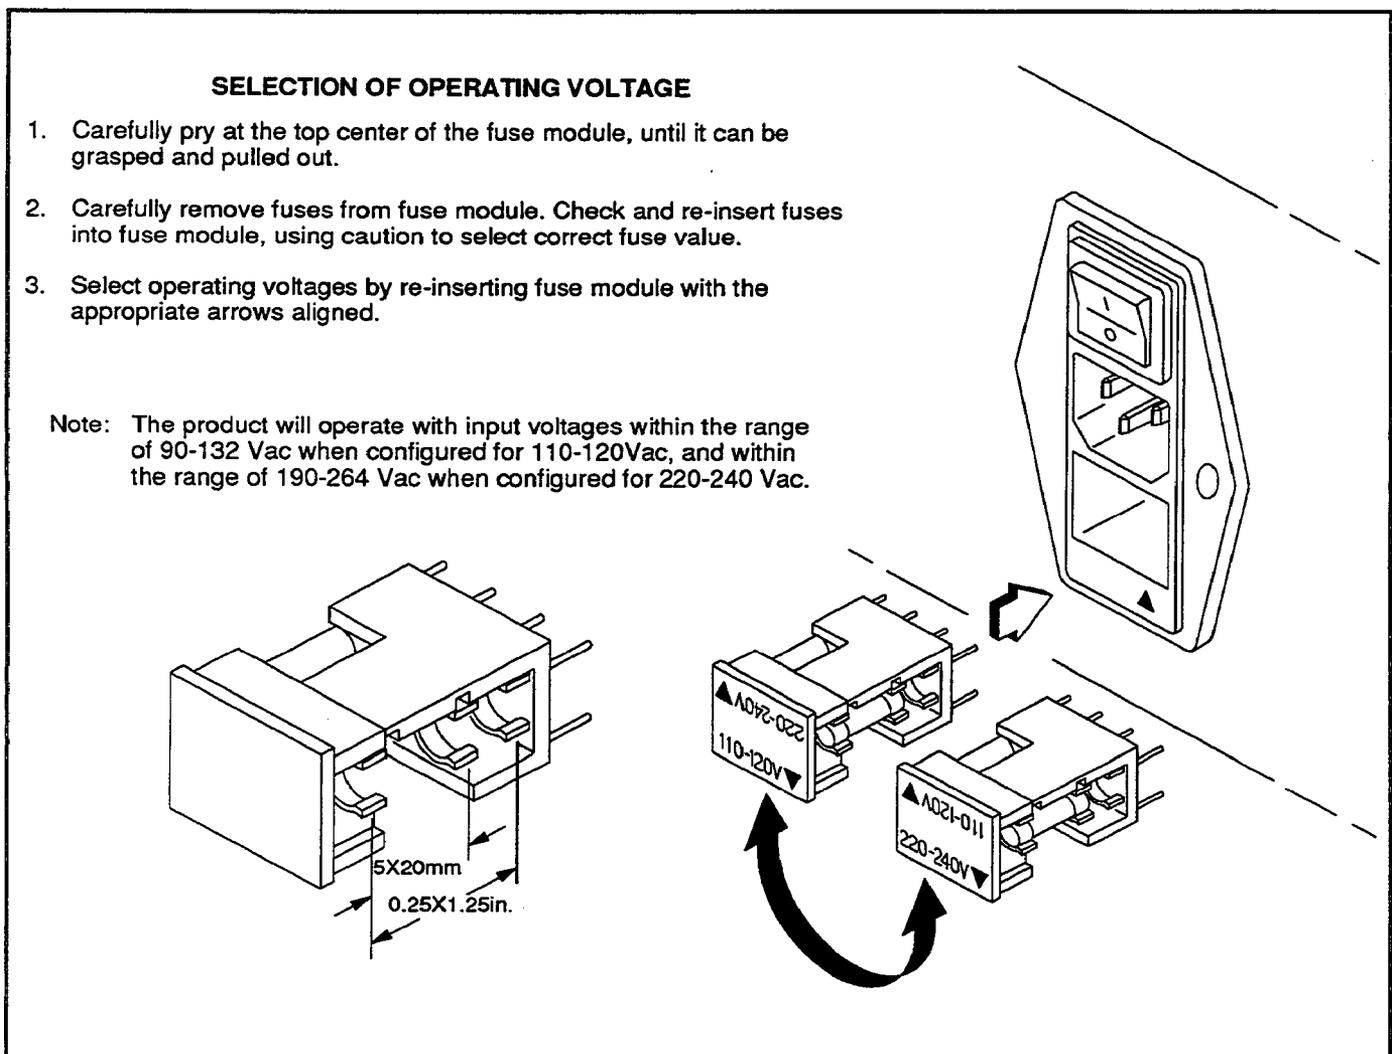

Figure 2-1. Line Voltage and Fuse Selection
Verify that the line voltage selection and the fuse are matched to the power source. Refer to Figure 2-1, Line Voltage and Fuse Selection.
- On the Simulator rear panel, verify that the line voltage selector is set for the line (Mains) voltage source available in your area. Check that the fuse rating is appropriate for the line voltage used. Refer to Figure 2-1 for more information.